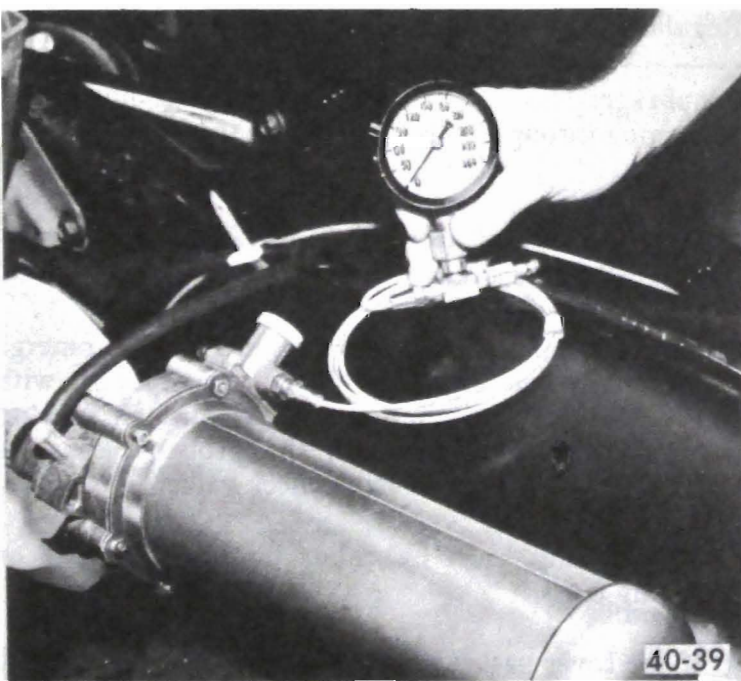

Figure 40-9 - Test Gage Installed on Regulator Valve
1. Deflate system through service valve and disconnect line at pressure regulator valve. Install test gage on regulator valve high pressure fitting. See Figure 40-9.